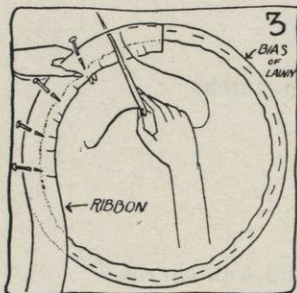

FIG. 3.
- b. Stretch one selvage well and, as you stretch, baste it through the white lawn at the extreme edge of the steel wire (see Figure 3).